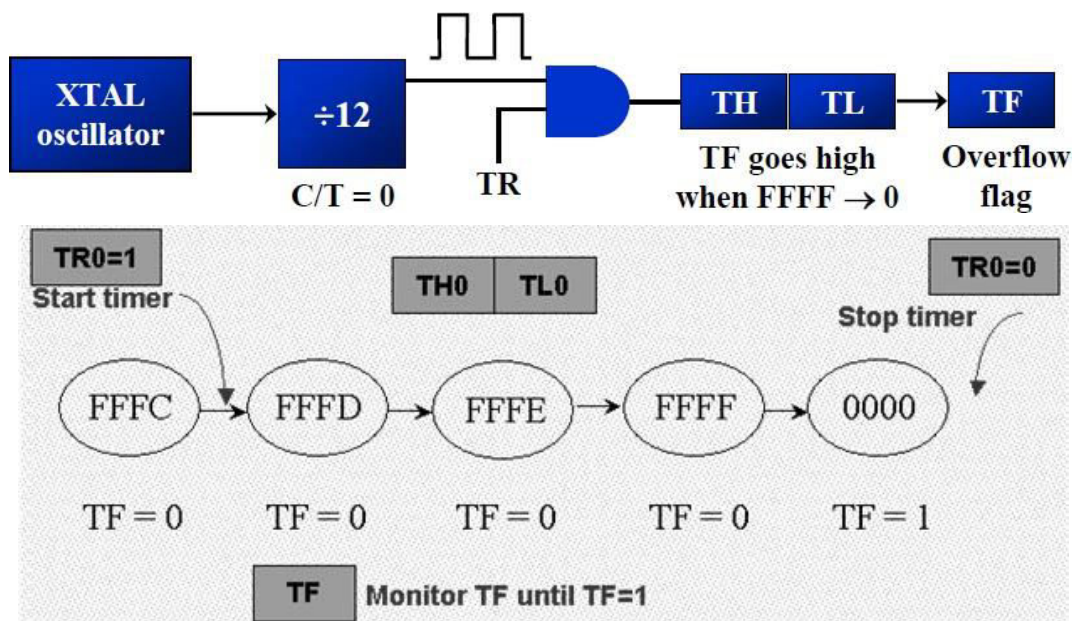

Fig 4.1.1 Mode 1 Operation of Timer
- The figure 4.1.1 explains the Mode 1 operation of timer